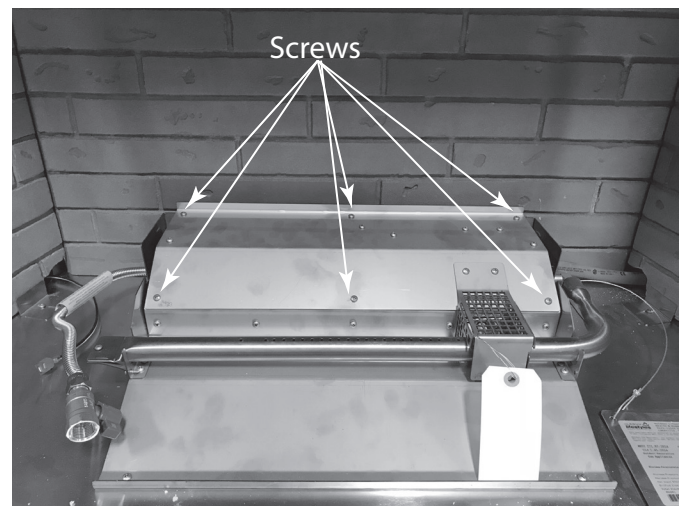

Figure 5.1 Top Access Cover
- Remove (6) screws securing top access cover. See Figure 5.1.